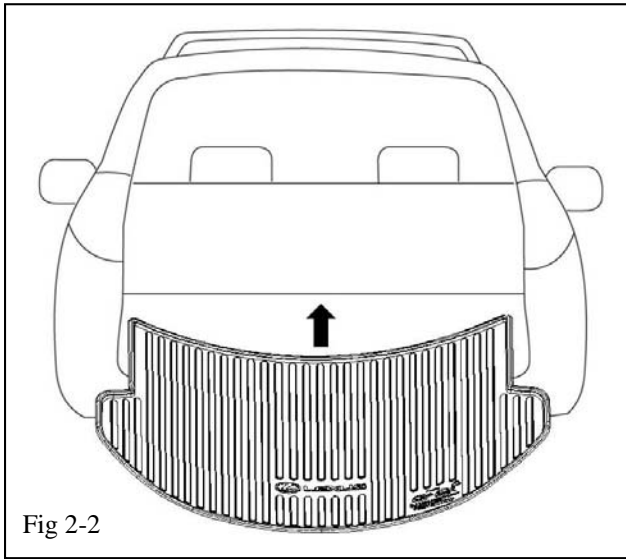

Fig 2-2
- (b) Grasp the tray by the rear and fold in the sides sufficiently to slide it into the rear compartment. After installing the tray, ensure all of the edges are pushed down against the floor (Fig 2-2).